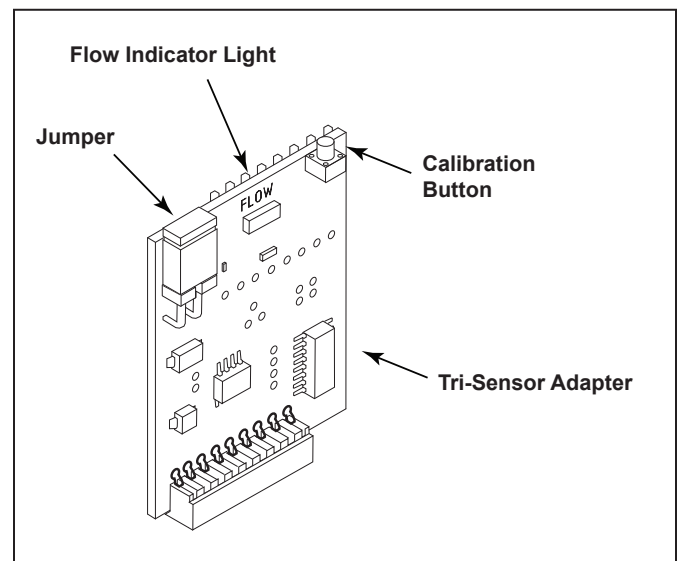

Figure 5. Components of the Tri-Sensor Adapter
If the chlorine generator power interface board firmware is 02110A10, remove the jumper from the tri-sensor adapter, see Figure 5. All other chlorine generator power interface board firmwares and AKC13 front boards require the jumper.
3. Wait a minimum of four (4) minutes to stabilize the temperature readings of the tri-sensor.
4. On the tri-sensor adapter, press and hold the calibration button for five seconds until the "Flow" indicator is illuminated. See Figure 5.